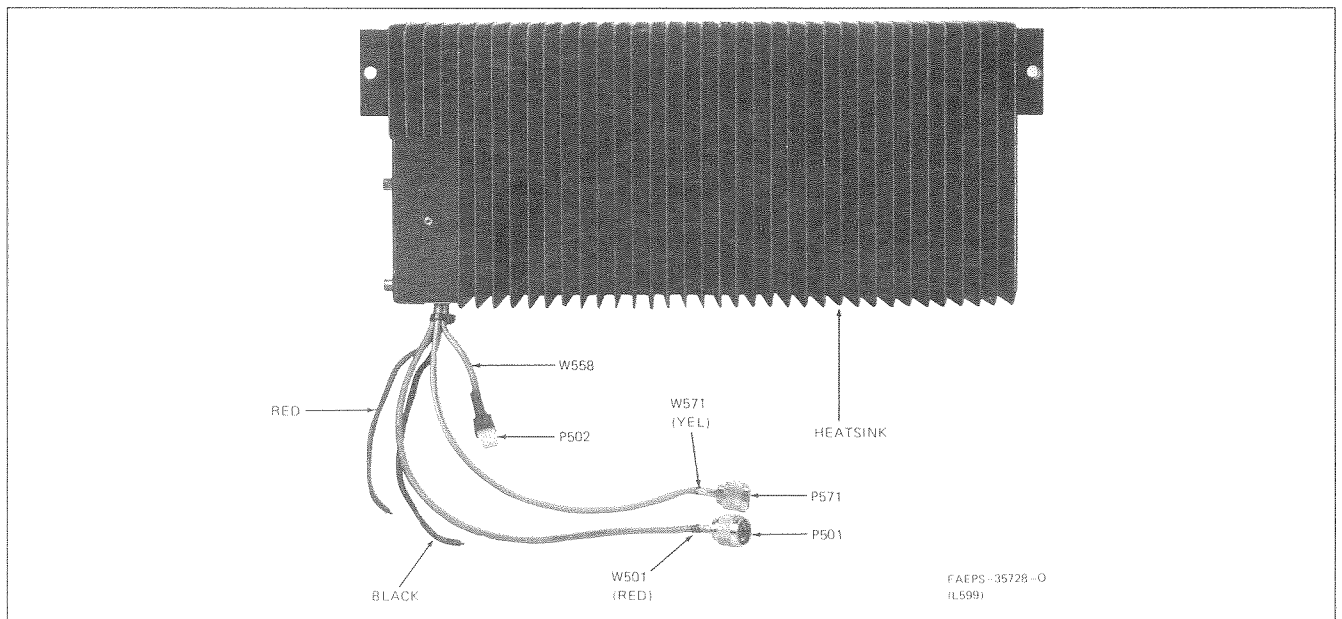

Figure 1. Front View of Power Amplifier Deck
The *MSF 5000* Power Amplifier (PA) is designed for continuous duty operation over the full -30°C to $+60^{\circ}\text{C}$ range of ambient temperatures. The amplifier employs ceramic hybrid modules with 50-ohm interfaces between all stages. A built-in circulator provides for optimum performance of the PA regardless of the VSWR produced by the antenna. See Figure 1.